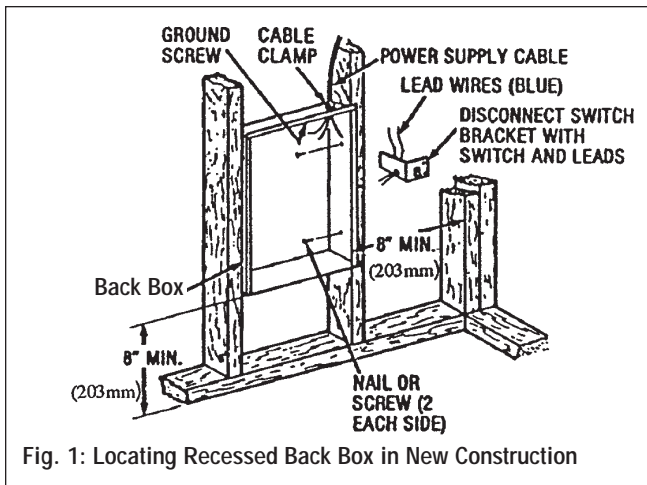

Fig. 1: Locating Recessed Back Box in New Construction
- Mounting Back Box (See Figure 1).
- Secure the back box in position with wood screws or nails as shown in Figure 1.
- Power Supply Wiring (See Figure 1)